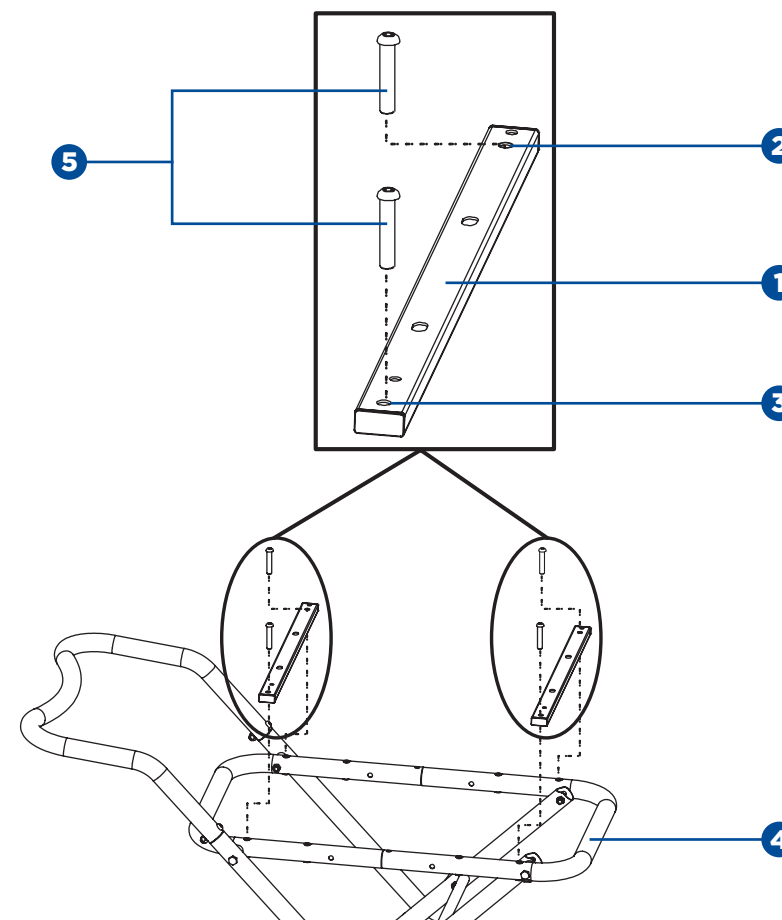

Fig. 6
**TO ASSEMBLE THE SUPPORT B (FIG. 6 & 7)**
- Align the holes on the support B (1) (the second (2) and last (3) holes) with top surface of the tubes of the frame (4).
- Vertically insert a flat round head screw M8 x 45 (5) through the hole and tighten it with 5 mm hex key (supplied).